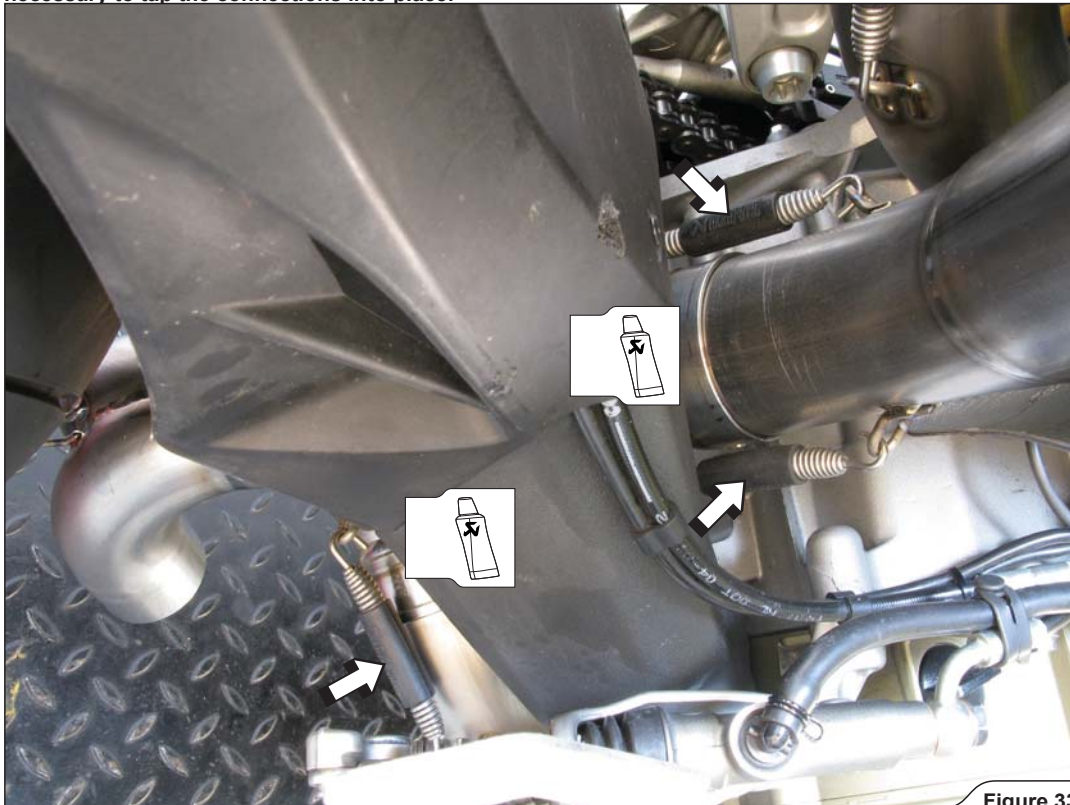

Figure 33
8. Slide the collector onto both link pipes and attach the springs (**Figure 33**).